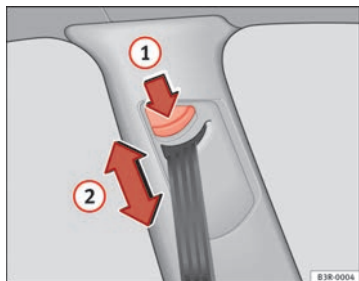

Fig. 16 Belt height adjuster
- Press button ⇒ fig. 16 ① to adjust the belt height.
- Take hold of the top guide fitting and slide it up or down so that the shoulder part of the seat belt is positioned roughly midway over the shoulder, although **it must never rest against the neck** ⇒ fig. 16 ② ⇒ ⚠ in Seat belt position on page 24.